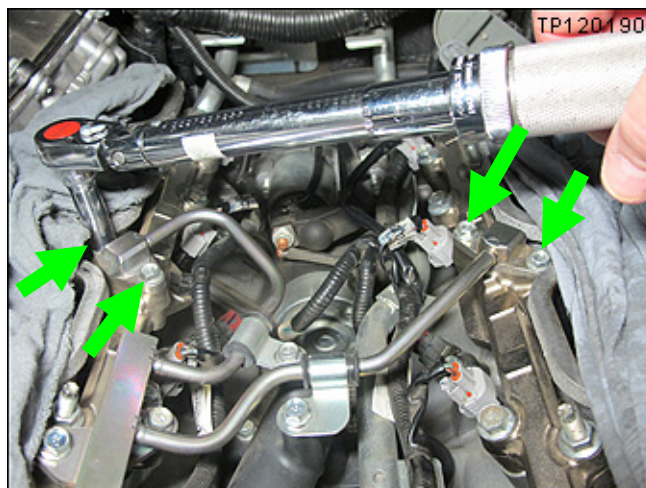

Figure 24m
28. Torque the bolts shown in Figure 24m: